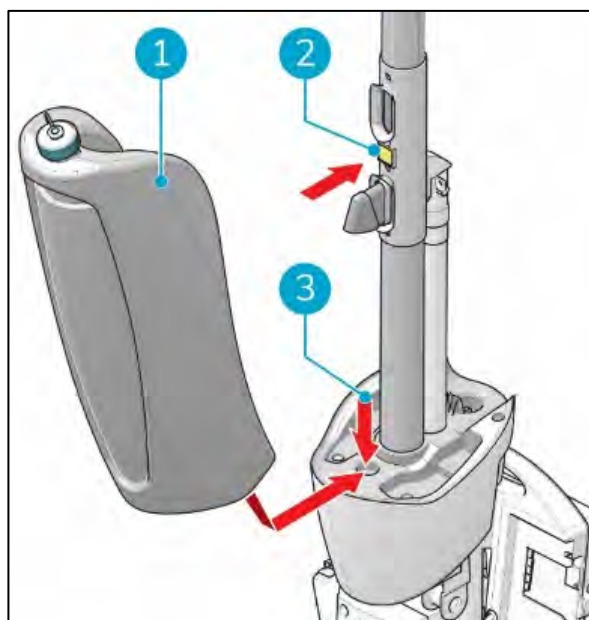

Figure 11
1. Put the bottom of the recovery tank (Figure 11, pos 1 and pos 3) on the front of the i-mop® XL Basic.
2. Push the top of the tank into place until you hear a "click" sound, the magnet (Figure 11, pos 2) will lock the recovery tank into place.